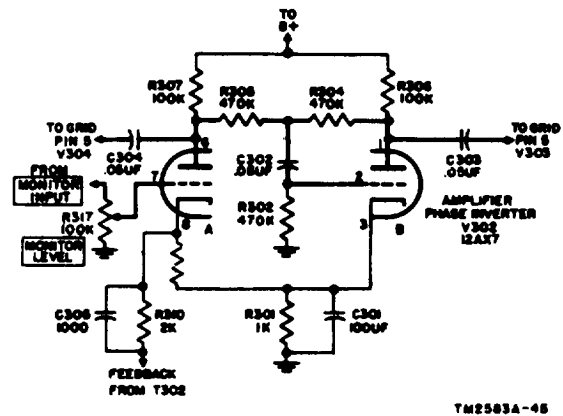

Figure 26. Amplifier phase-inverter circuit, simplified schematic diagram.
b. Amplifier and Phase Inverter V302 (fig. 26). Input to the audio amplifier circuit are taken from MONITOR INPUT J303 and developed across MONITOR LEVEL control R317. A portion of the signal voltage is applied to the control grid of tube V302A. The amplified output developed across plate load resistor R307 is coupled out to tube V304 by capacitor C304. Amplified signal voltage is also developed across resistors R305 and R304. At the junction of resistors R305 and R304, signal voltage is coupled out by capacitor C302 to the control grid of tube V302B across resistor R302. The amplified signal of V302B is developed across plate load resistor R306 and coupled out to tube V303 by capacitor C303. Feed-back voltage to reduce distortion is taken from the secondary of transformer T302 and fed back to the cathode of tube V302A through filter resistor R310 and capacitor C305. Plate voltage for tube V302A and V302B is taken from the junction of resistor R315 and capacitor C307C.